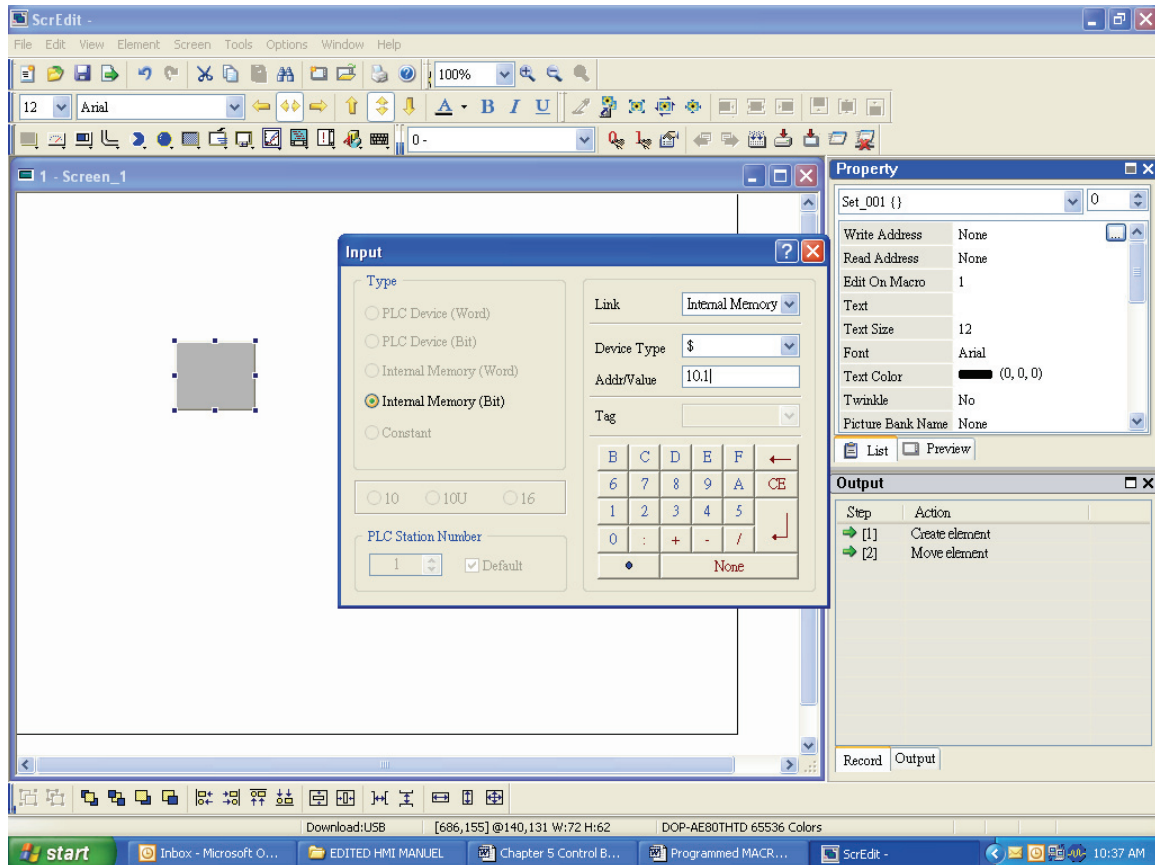

Fig. 7.5
- In the Write Address type in 10.1. See Fig. 7.5